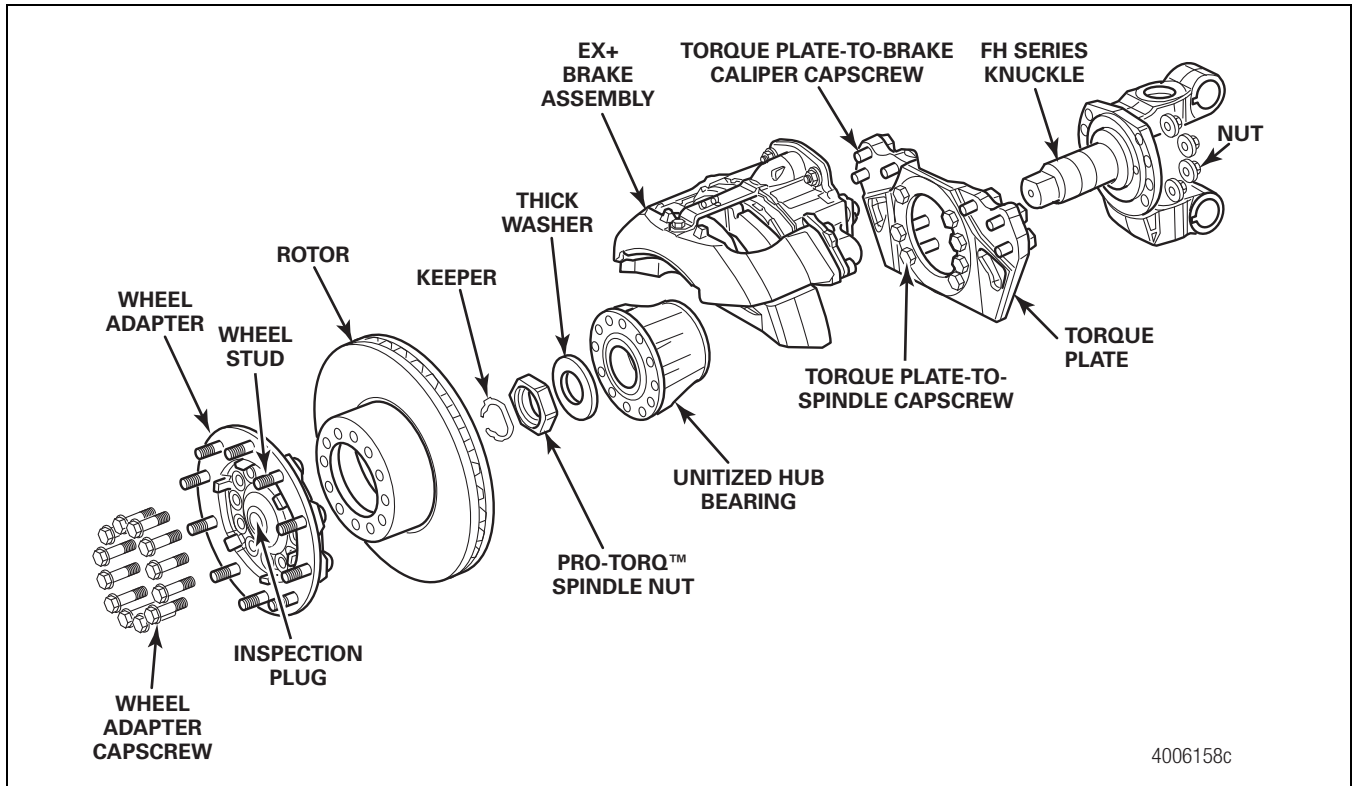

Figure 13.21
1. Verify that the wheel is mounted correctly and all wheel-end fasteners and hardware are tightened to the correct specification. Figure 13.21.